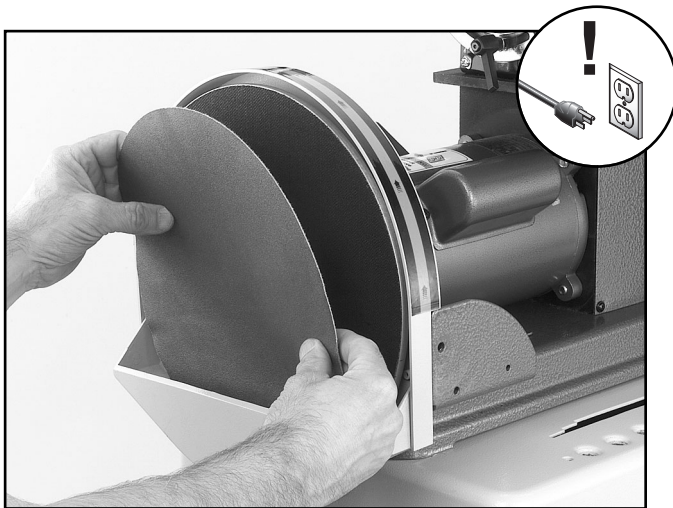

Figure 12. Installing sanding disc.
4. Install the new sanding disc as shown in **Figure 12**.